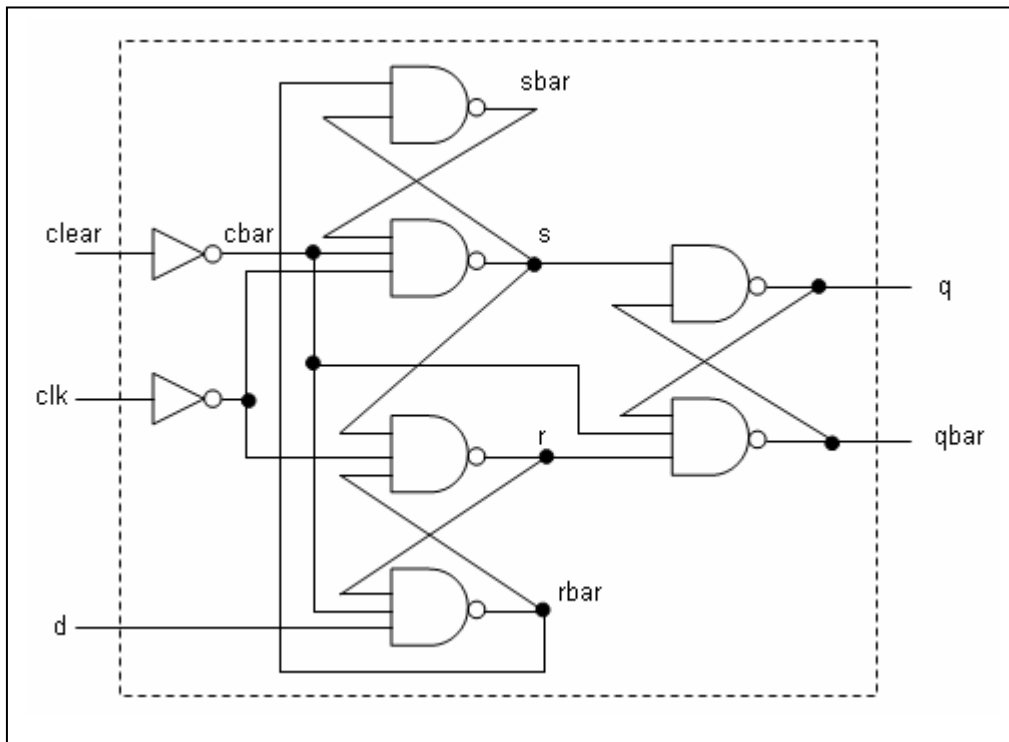

Fig. 2.3 Schematic of a D Flip-flop
4. Create the lowest level module “*D_FF*” according to Fig. 2.3 using Verilog Primitives, NAND and NOT. Note that the pins of NAND and NOT are as follows: